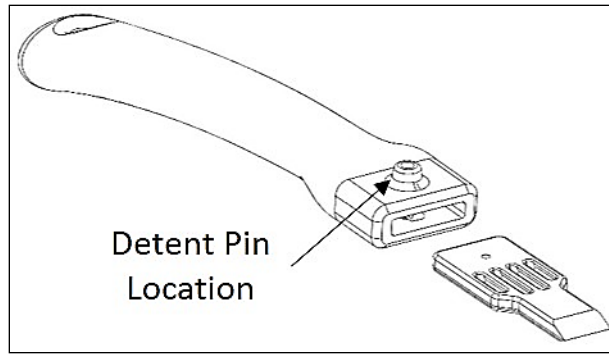

Figure 5. TSB Installation
- 3.1.5. Attach the appropriate TSB to the handle by inserting the TSB into the slot on the handle. When installed correctly, an audible “CLICK” should be heard when the blade engages the detent pin. See **Figure 5**.